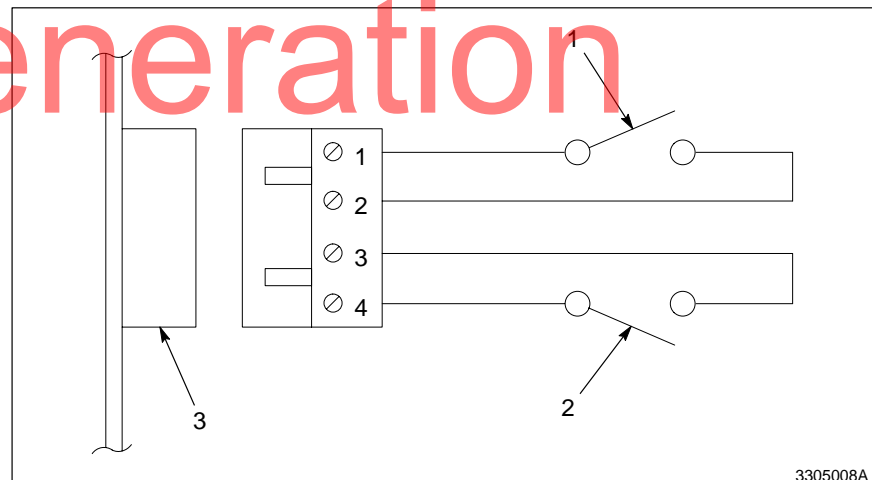

Fig. 3-8 Interlock connections
2. See Figure 3-8. If you use the master control interlocks, connect the leads from the external N.O. (normally open) interlock relays to terminal P5 on the master control relay board.